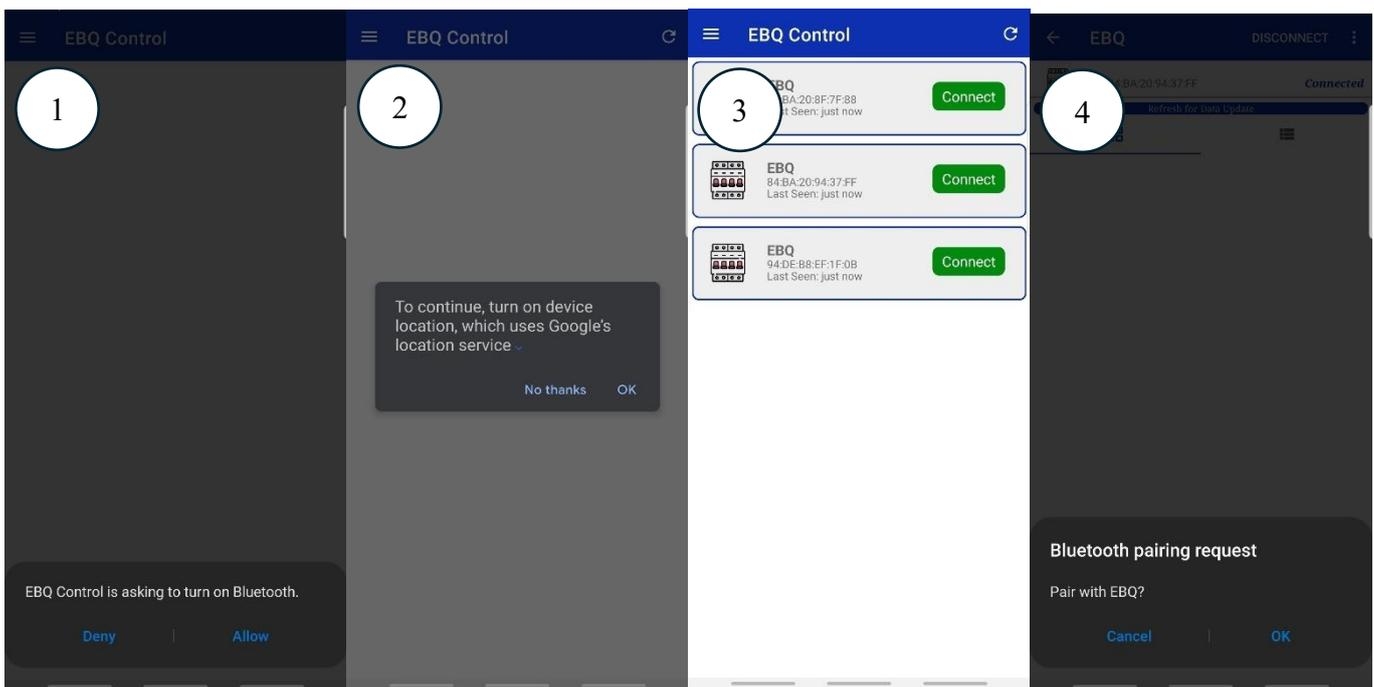

Figure 7 Settings and Pairing EBQ master request
4. Searches and connects EBQ devices by pressing “Connet” button in the apps. A pairing notification is pop-up for user permissions as shown in Figure 7.